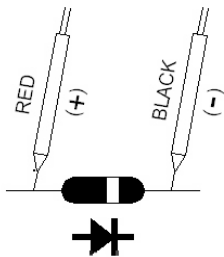

Fig. 2
- 4) a. When connected with polarity as shown in Fig. 2, a forward current flow is established and the approx. Diode Forward Voltage (VF) value in volt will appears on the display reading. If the diode under test is defective, ".000 " or near ".000 " value (short circuit) or " 1 " (open circuit) will be displayed.